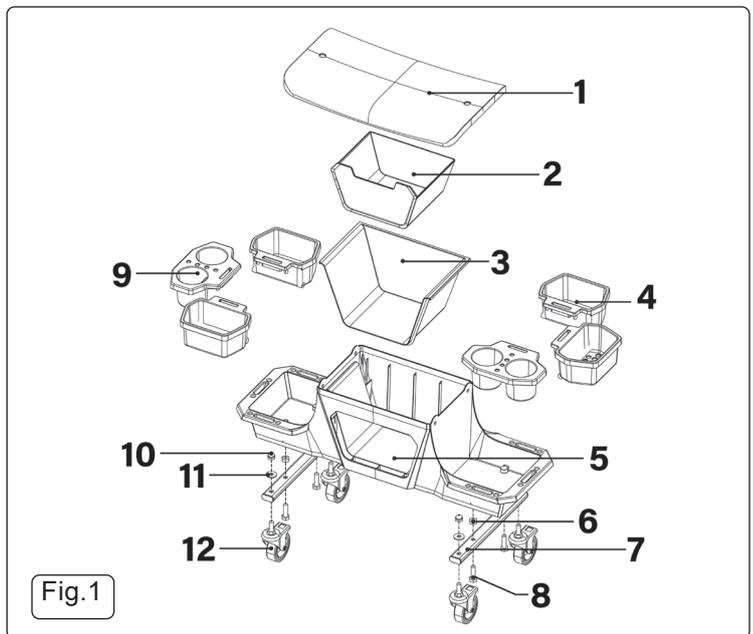

Fig.1
- 5.3. Locate remaining items into body as shown in fig.1.